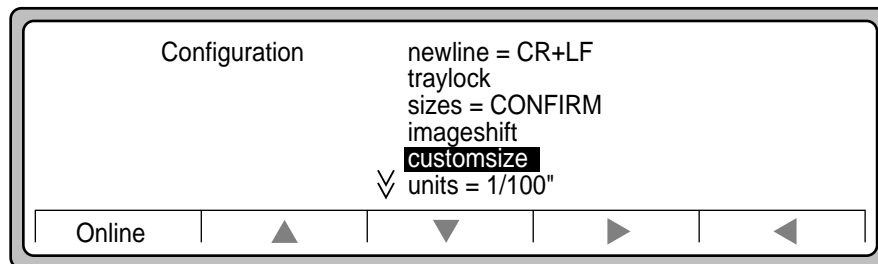

Figure 3-21 Customsize selection
13. Press ▲ to highlight customsize (Figure 3-21).